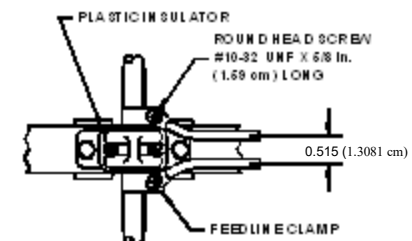

FIGURE 2
2. The feedlines connecting the dipoles "C" and "D" are attached as shown in Figure 2 using the four feedline clamps and the #10-32 x 5/8" long round head screws. The feedlines must have a center to center spacing of 1/2 inch as shown in Figure 2. Attach the feedlines to the top of the feedline clamps. There must be bare metal to metal contact between the feedlines and the dipoles.